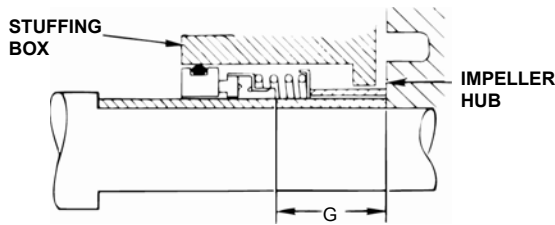

FIG. 7
2. Install the rotating and stationary elements of the mechanical seal (6-400-0) on the shaft sleeve (1-009-0) being certain that the two wearing surfaces face each other. Position the seal on the sleeve according to the "G" dimension found in Fig. 7.